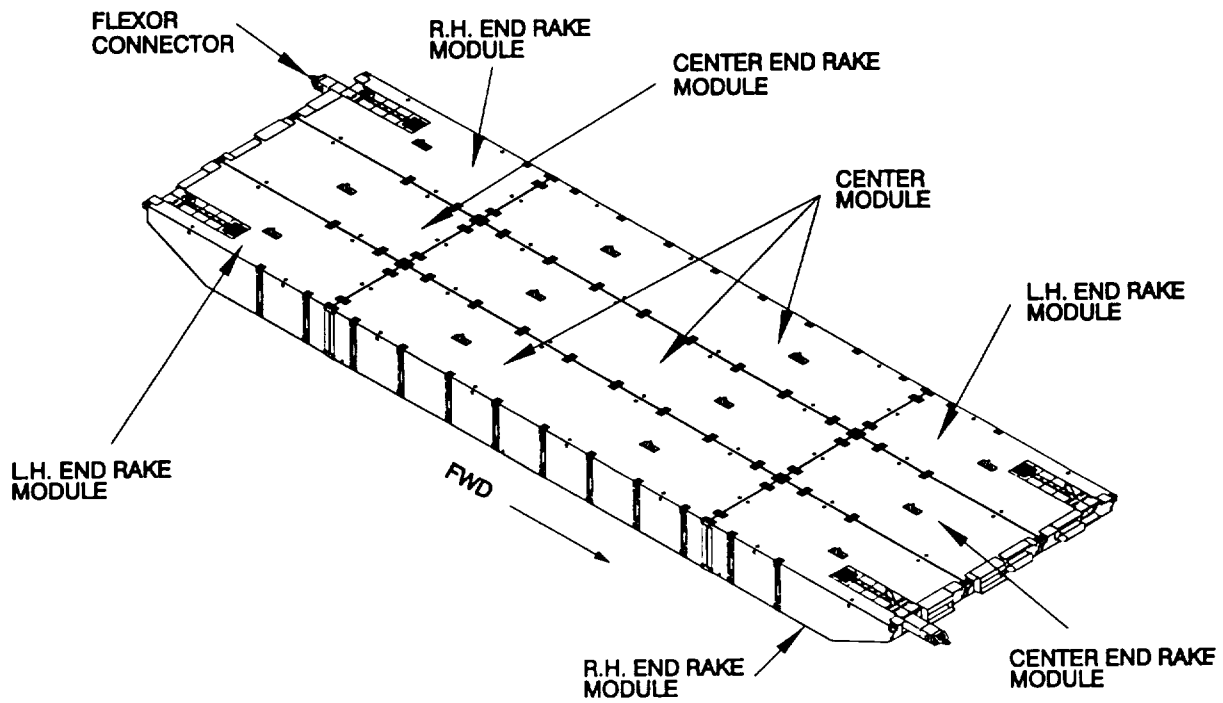
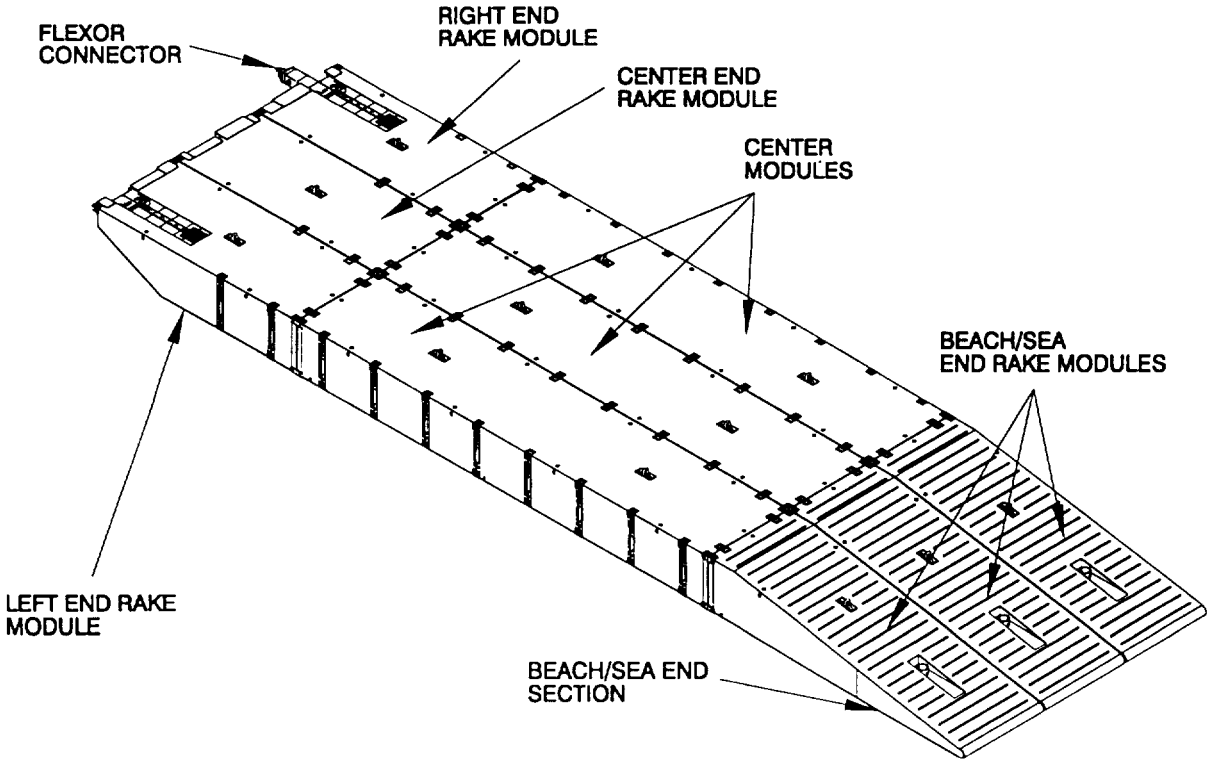

Figure 2-41. Assembled Intermediate Section.
Figure 2-42. Assembled Beach/Sea End Section.
**2-7.9 Assembly Summation.** When three non-powered modules with end rakes strings are connected together, the result is the Intermediate Section (Figure 2-41). When three non-powered modules, with end rakes on one end and beach/sea ends on the other end are connected, the result is the Combination Beach/Sea End Section (Figure 2-42). When the Beach/Sea End Section has the P-3 Adapter Assembly installed, this results in the alternate configuration, with the beach/sea end modules inverted (Figure 2-43).